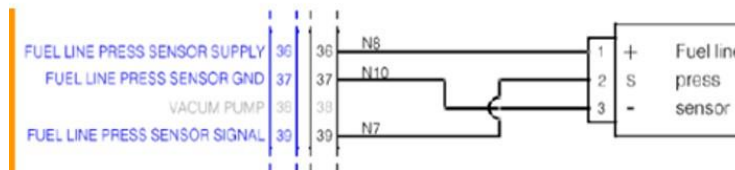

Figure 2
When installing the new connector, it is important to place the circuits in the correct pin location for the new design sensor. Looking at the back of the connector (wire insertion side) with the locking tab up, and starting from the left. Circuit N7 (OG) has moved from pin 1 to pin 2. Circuit N10 (YE/GN) has moved from pin 2 to pin 3. Circuit N8 (WH/YL) has moved from pin 3 to pin 1. See (Figure 2).